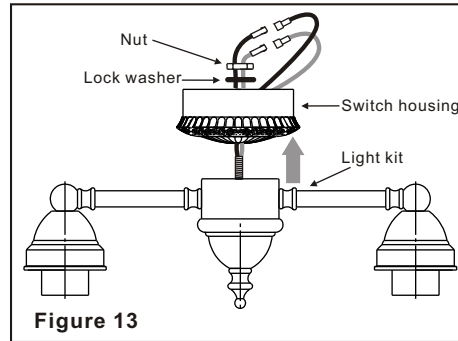

Figure 13
1. Attach the light kit to the switch housing by feeding the light kit wires (black and white) through the hole of switch housing and then screw it onto the switch housing by nut & lock washer. Be sure it is tight enough to prevent light kit from vibrating loose. (Fig. 13)